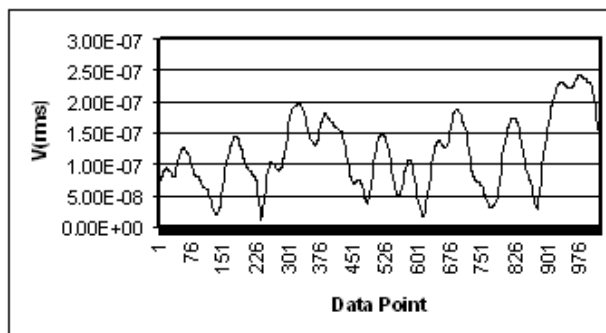

Figure 15: The data aren't "spiky" and have quite a few "periods"
- (c) **The data look very "spiky". WHY IS THIS A PROBLEM (this is a question for you to answer)?** The SAMPLE RATE is probably too low. Increase it. Your data should look rather rounded and contain as many "periods" as possible. See **Figure 15**.